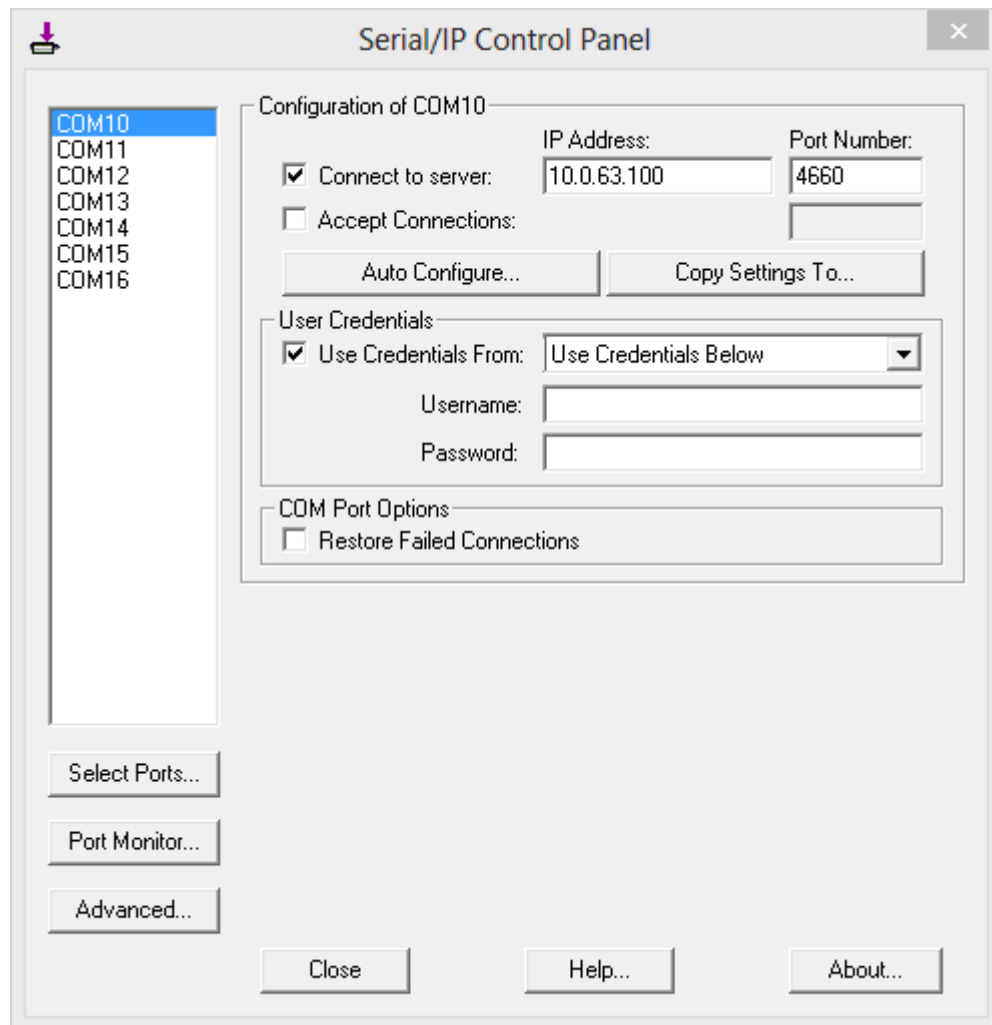
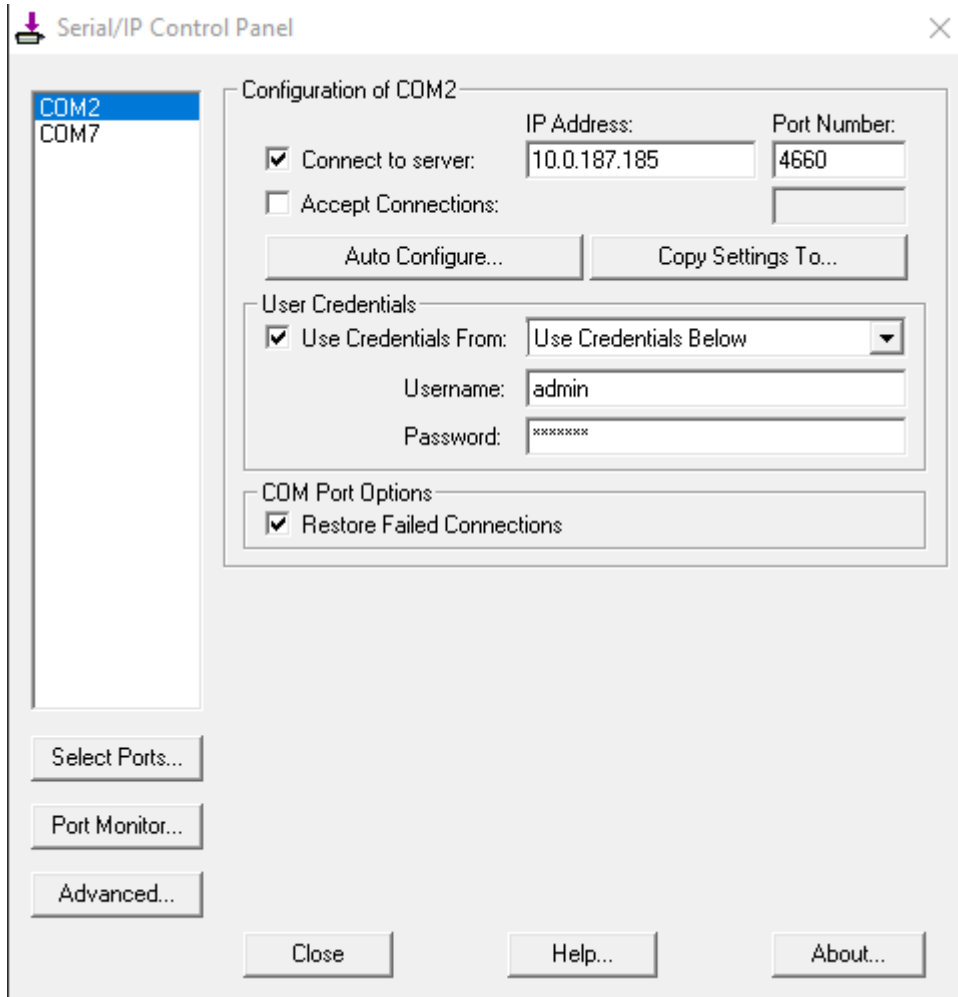

Figure 6.8 Available Options for Use Credential From in Serial/IP Control Panel Version 4.9.10
Figure 6.9 Configuring Virtual COM 2 Port as TCP Client
1. If the serial device server (i.e. SE59XX) is running in **TCP Server Link Mode** (recommended), the **Serial/IP** utility on the host computer should be configured as the TCP client connecting to the serial device server. Enable **Connect to Server** option (by checking the box in front of it as shown in Figure 6.9) and enter the IP Address of the serial device server with the specified **Port Number**. The **Port Number** here is the **Local Listening Port** for the serial device server which is specified in the **Local Port** field of Figure 5.11.
3. Under **User Credentials** box, you can enable **Use Credentials From:** option by checking the box in front of it then select options from the drop-down list. The available sources of credentials are: **Prompt on COM Port Open**, **Prompt at Login**, and **Use Credentials Below** as shown in Figure 6.8. If you select **Use Credentials Below** option as shown in Figure 6.9, please specify the **Username** and the **Password** in their corresponding text boxes.
6. To transfer the settings between Virtual COM ports, click on the **Copy Settings To** button as shown in Figure 6.9.